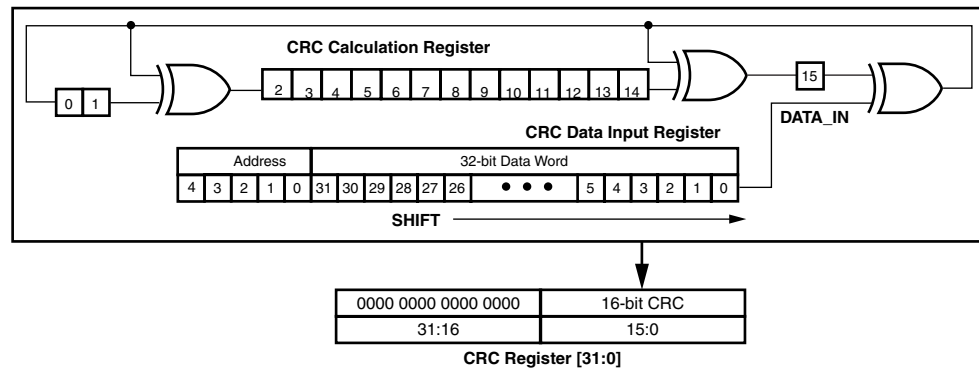

Figure 3-34: Serial 16-bit CRC Circuitry
The algorithm is implemented by shifting the data stream into a 16-bit shift register, shown in Figure 3-34. Register Bit(0) receives an XOR of the incoming data and the output of Bit(15). Bit(2) receives an XOR of the input to Bit(0) and the output of Bit(1). Bit(15) receives an XOR of the input to Bit(0) and the output of Bit(14).
Not all of the configuration stream is loaded into the CRC circuitry. Only data that is written to one of the registers shown in Table 3-22 is included. For each 32-bit word that is written to one of the registers (Table 3-22), the address code for the register and the 32-bit data word is shifted LSB first into the CRC calculation circuitry, see Figure 3-34. When multiple 32-bit words are written to the same register, the same address is loaded after each word. All other data in the configuration stream is ignored and does not affect the CRC checksum.